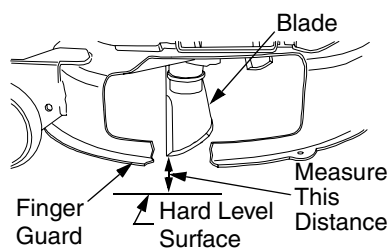

Figure 28
5. Referring to Figure 28, measure and record the distance from the hard, level surface to the outermost cutting edge of the right blade. Repeat this step for the left blade. If the two blade heights are not within 1/16 inch, the deck must be leveled. Note whether the left blade had the *larger* or *smaller* distance between the cutting edge and level surface. If the two blade heights are within 1/16 inch, proceed to **B. Front To Back Leveling Adjustment**.